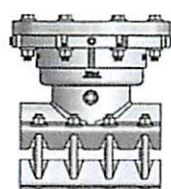

Figure 1
2. Inspect the line stop fitting to ensure no damage has occurred during shipment or storage (See Figure 1). Locate and remove completion plug and box containing stainless steel mounting hardware. Store in a clean, safe location.